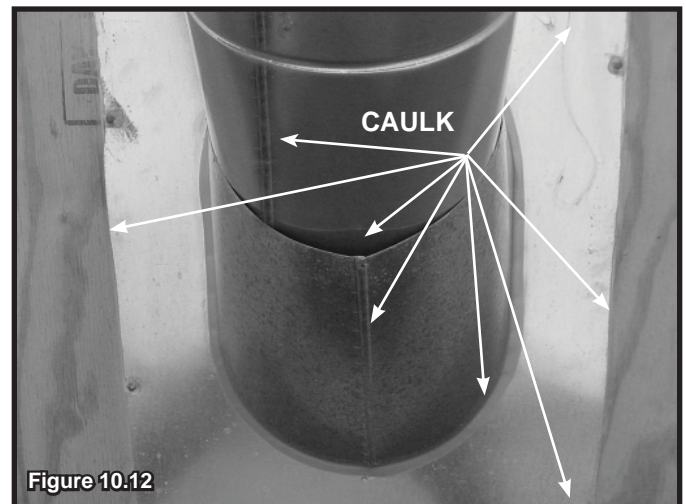

Figure 10.12
- Slide the roof flashing over the pipe sections extending through the roof as shown in Figure 10.12.
- Caulk the perimeter of the flashing where it contacts the roof surface. See Figure 10.12.